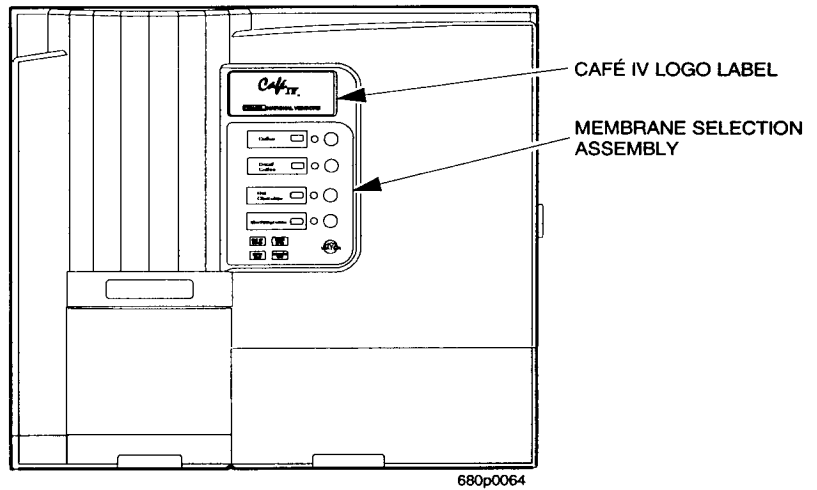

Figure 2
2. If you choose to apply this label, remove the paper backing material and apply it directly over the top of the original Café III or Café IV logo (see figure 2).